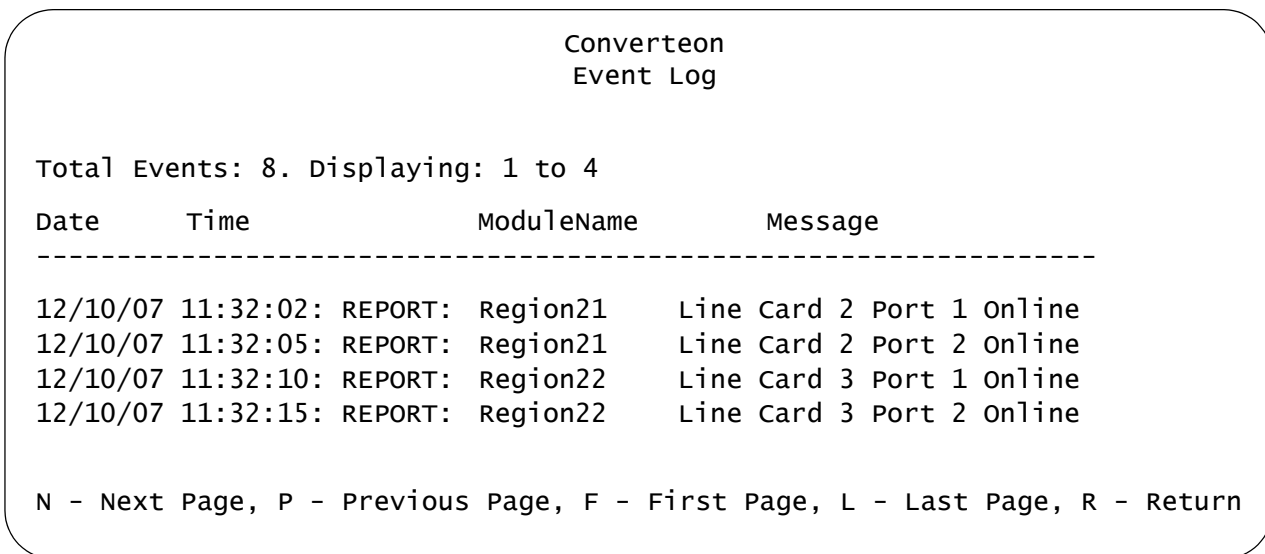

Figure 30. Event Log
3. From the Event Log Menu, select **Display Event Log**. An example of the event log is shown in Figure 30. The messages are displayed from oldest to newest.